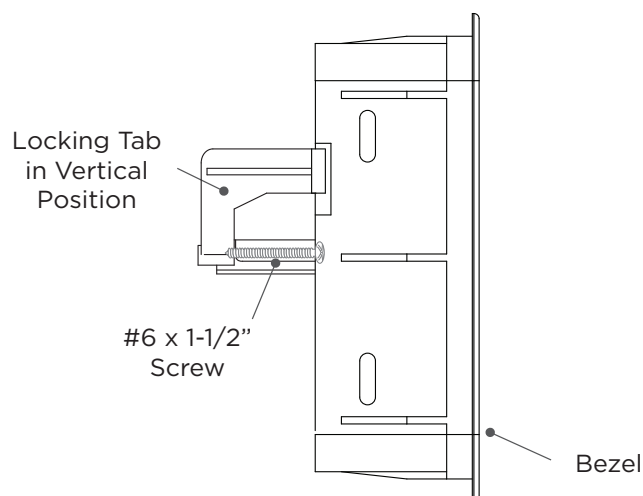
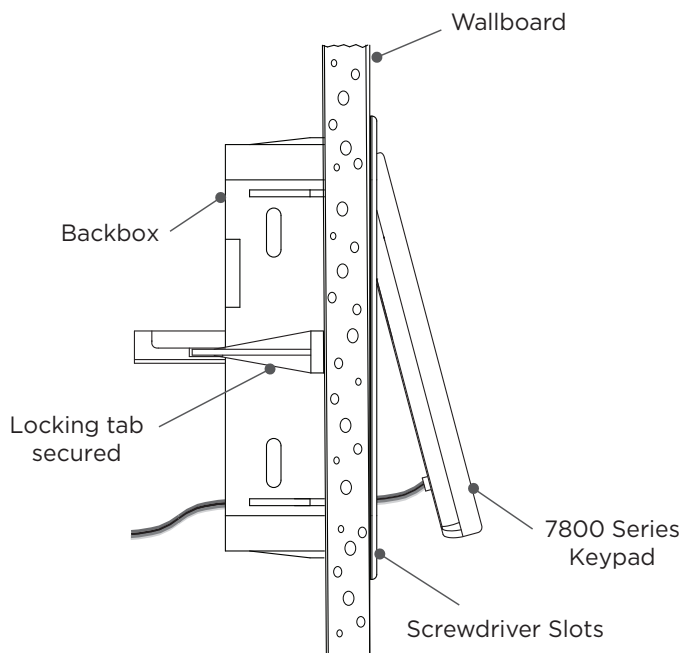

Figure 3: Mounting the Backbox
Figure 4: Installing the Keypad
2. Insert the two provided #6 x 1-1/2" screws through the rear wall of the backbox and thread approximately 1/4" into the two locking tabs as shown in Figure 3.
4. To secure the backbox to a wall stud, use the side mounting holes to mount the backbox, then secure the locking tabs. Place the backbox in the wall space with the locking tabs vertical in the tab grooves on the back of the box. Use a No. 2 Phillips screwdriver to tighten the locking tabs so they swing into a horizontal position on either side of the backbox. Refer to Figure 3 and Figure 4.
2. Insert the top of the keypad into the backbox at a slight angle until the keypad slots connect to the backbox tabs. Refer to Figure 4.
Insert a flathead screwdriver into one of the screwdriver slots on the bottom of the keypad and gently push the handle down. Repeat in the other screwdriver slot. Gently pull the bottom of the keypad away from the backbox. Refer to Figure 4.